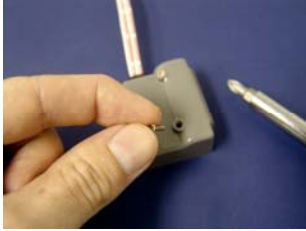

Fig 11
1. Remove the #2 screw from the top of the DPLS1 control box (fig 11).